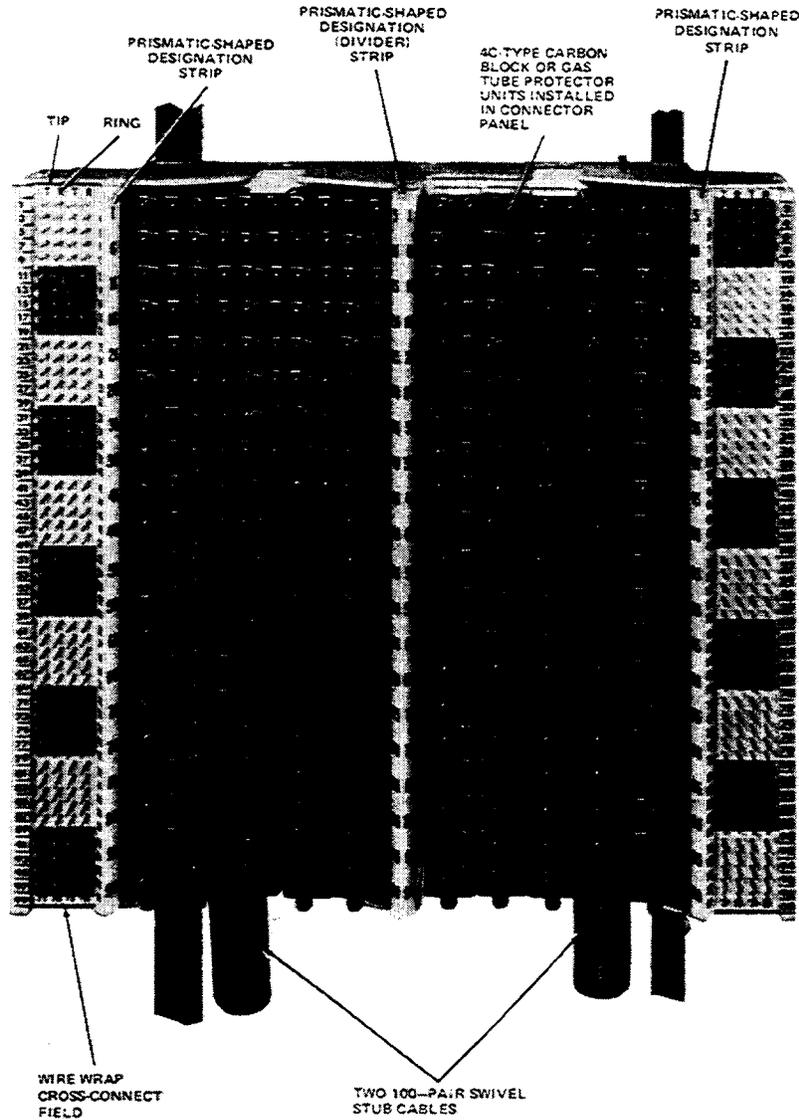

Figure 20—309-Type Connector
6.04 The 309-type connector (Figure 20) is designed for use on the ED-97754-74 LPCDF (Low Profile Conventional Distributing Frame), the ED-6C331-70 single-sided low profile distributing frame, and the